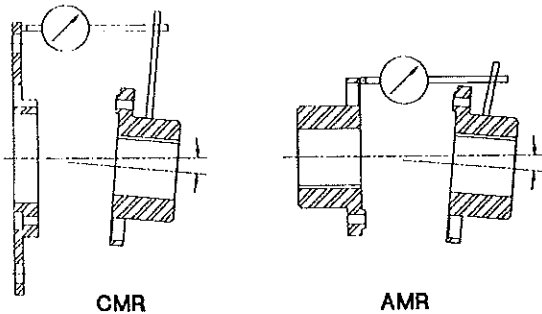

Figure 2
- C. **Angular Alignment.** Rigidly mount a dial indicator on one hub or shaft, reading the face of the other hub flange or flywheel adapter, as shown in Figure 2. Rotate both shafts together making sure the shaft axial spacing remains constant. Adjust the equipment by shimming and/or moving so that the indicator reading is within .002 inch per inch of coupling flange diameter. See Chart (A).